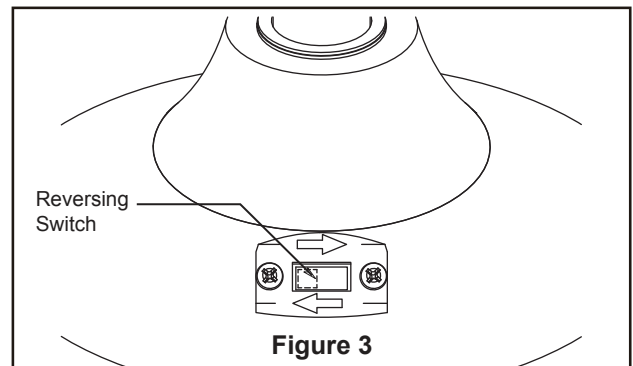

Figure 3
3. If airflow is desired in the opposite direction, turn the fan off and wait for the blades to stop turning. Then, slide the reverse switch on top of motor assembly to the opposite position and turn fan on again. (Figure 3 )